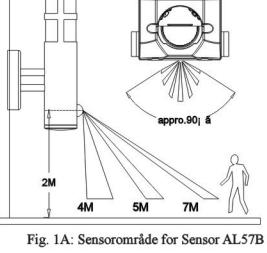

Fig. 1A: Sensorområde for Sensor AL57B
■ Idealt skal PIR SENSOREN monteres ca. 2 meter over jorden da for det område sensoren skal kunne scanne. (Se Fig. 1A)
- Ideally the PIR SENSOR should be mounted about 2 meters above the area to be scanned (Refer to Fig.1A).